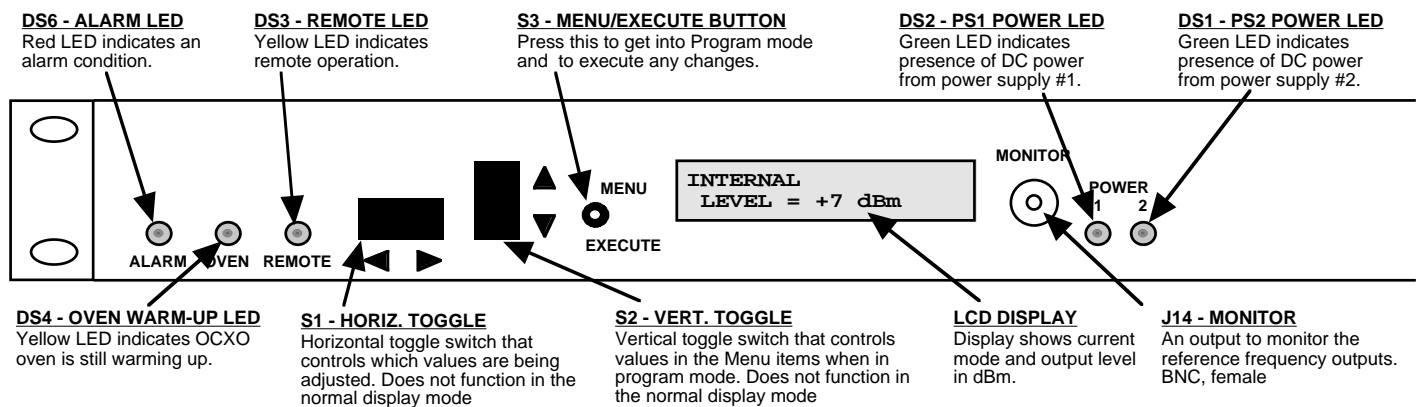

FIGURE 2.2 Front Panel Controls and Indicators
** FAULT occurs when in EXT LOCK AUTO mode and the external reference fails. This status can be reset remotely using the command in Table 1.2 or manually by pressing Menu/Execute followed by pressing up once or down once on the vertical toggle switch on the front panel (see Figure 2.2).
Figure 2.2 shows the front panel indicators.
2. Be sure DS1 and DS2 LEDs (green, POWER) are on (Figure 2.2).
5. (option E only) Choose one of the three (3) modes (Internal, Ext Lock, or Ext Lock Auto) in which to operate the unit.
8. Monitor reference output signal with J14 (MONITOR) (Figure 2.2).
Alarm indications appear on the LED (see Figure 2.2).